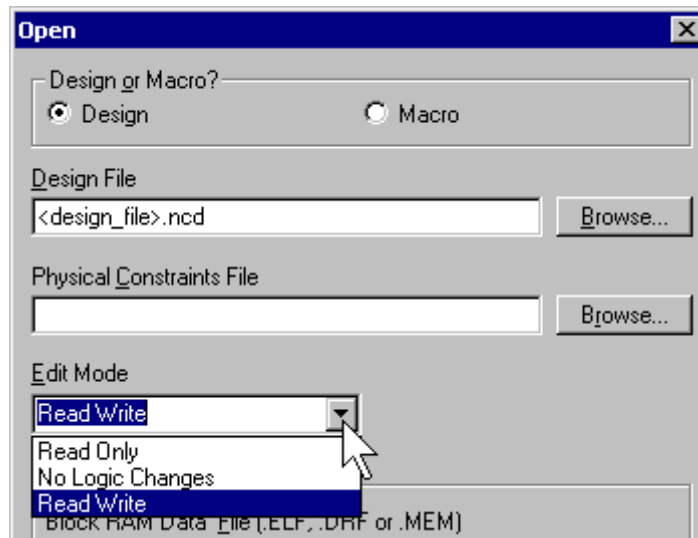

Figure 3: Enable User Editing in FPGA Editor
- Select **File** → **Open**. Select the \*.ncd file for the completed design. Set the **Edit Mode** to "Read Write" mode as shown in Figure 3.